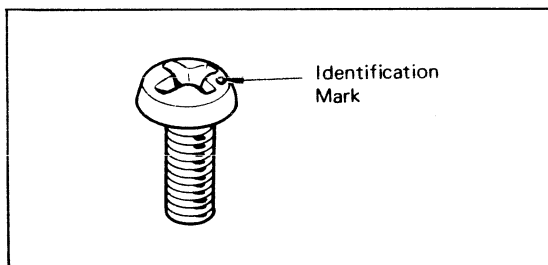

Fig. 2-1 ISO screw
**Note:** All screws in the STR-6200F are manufactured to the specifications of the International Organization for Standardization (ISO). This means that the new and old screws are not interchangeable because ISO screws have a different number of threads per mm compared to the old ones. The ISO screws have an identification mark on their heads as shown in Fig. 2-1.